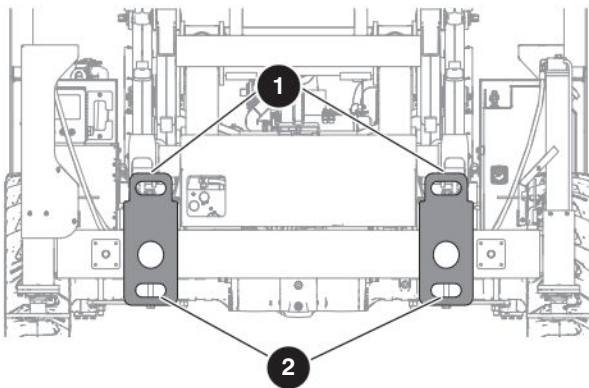
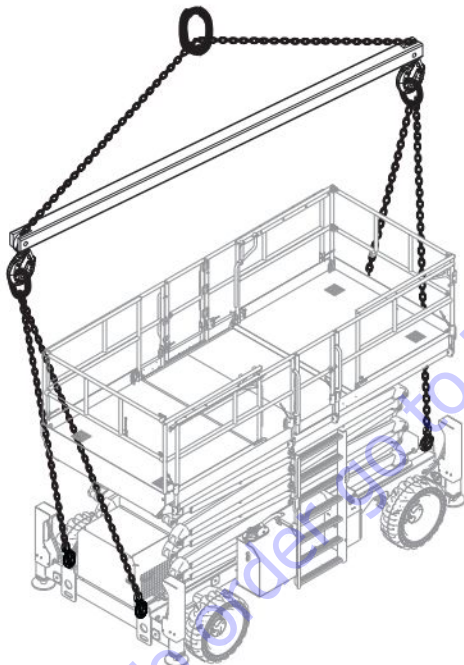

Figure 09 Lift and tie-down points
Figure 10 Appropriate method to hoist
- Attach the rigging to all **four lift points** ❶. Refer to *Figure 09* and *Figure 10*.
When you transport the MEWP, it must be attached to a truck or trailer deck. Use the available tie-down points ② to attach the MEWP. Refer to Figure 09 If you do not obey, there is a risk of death or serious injury.
- Tie-down the MEWP to the transport vehicle using the four tie-down points ②. Refer to Figure 09.